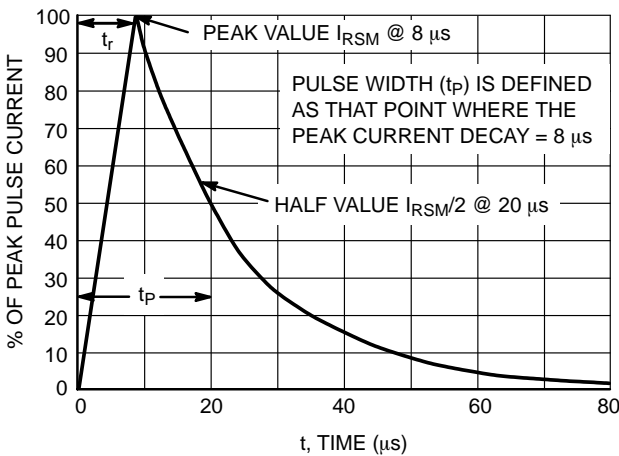

Figure 3. 8 × 20 μs Pulse Waveform
1. Non-repetitive current pulse per Figure 3
4. $8 \times 20 \mu\text{s}$ pulse waveform per Figure 3